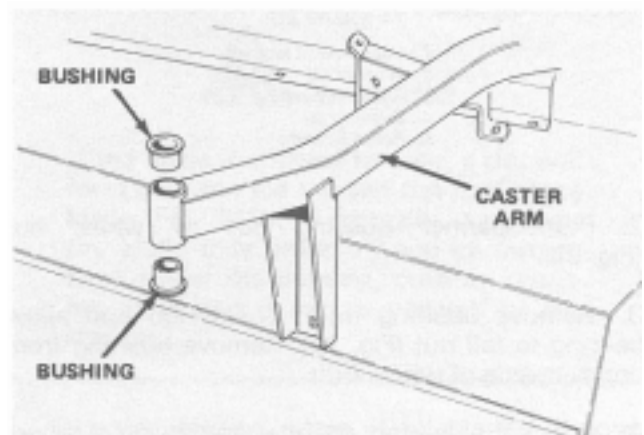

Figure 27
4. Insert pin punch into top or bottom of mounting tube and drive bushing out of tube (Fig. 27). Also drive other bushing out of tube. Clean inside of tubes to remove dirt.